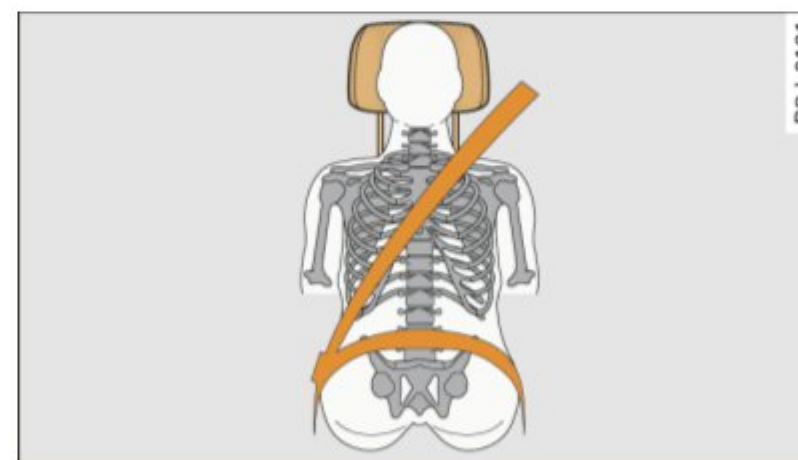

Fig. 123 Head restraint: viewed from the front
- Adjust the head restraints so the upper edge is as even as possible with the top of your head. If that is not possible, try to adjust the head restraint so that it is as close to this position as possible ⇒ *fig. 123*. ▶